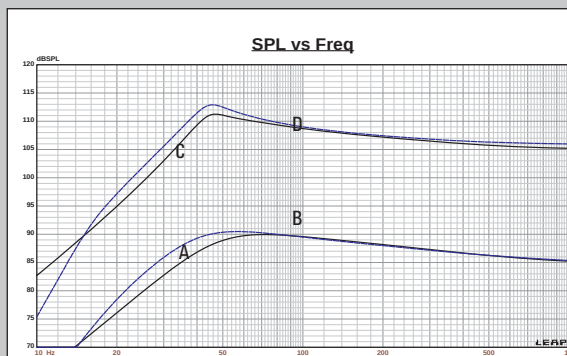

Figure 10: Scan-Speak 26W/4558T00 computer box simulations (A = sealed at 2.83 V; B = vented at 2.83 V; C = sealed at 36 V; D = vented at 40 V)
**Figure 10** illustrates the results for the Scan-Speak 26W subwoofer in the sealed and vented boxes at 2.83 V and at a voltage level high enough to increase cone excursion to  $X_{max} + 15\%$  (14.4 mm for the 26W). This yielded a  $F_3 = 40$  Hz with a box/driver  $Q_{tc}$  of 0.67 for the 1.0 ft3 sealed enclosure and  $-3\text{dB} = 33.5$  Hz for the 1.7 ft3 vented simulation.